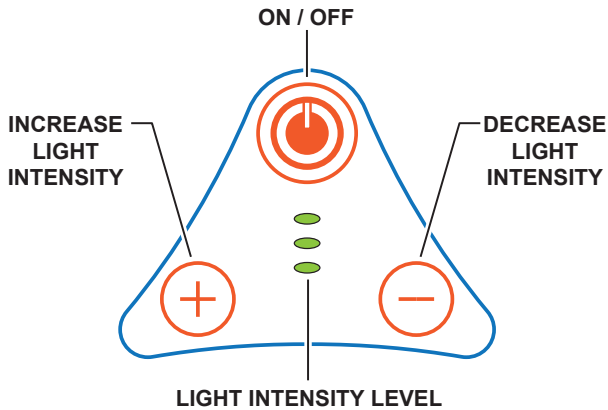

Figure 8. Control Pad
3. Press and hold the ON/OFF button on the control pad to turn the light on (Figure 8).